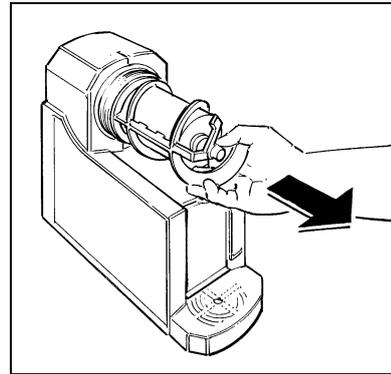

Fig. 17
- Pull out the mixing unit, the bell shaped seal and the bowl gasket on the back (fig.17 and 18).